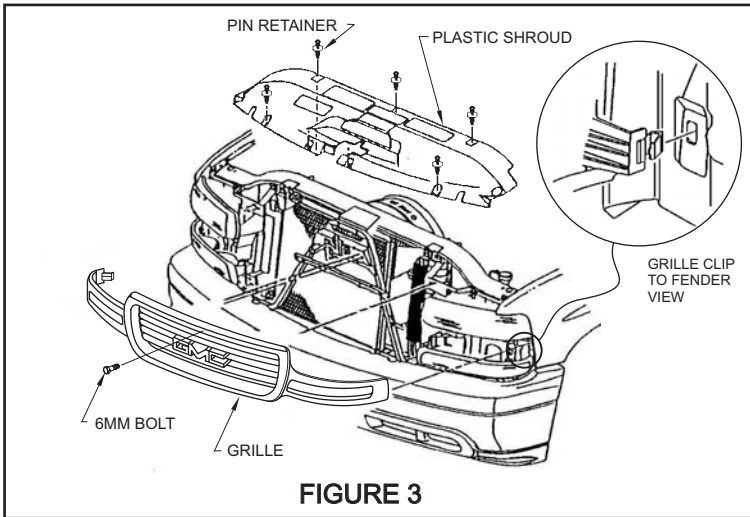

FIGURE 3
- STEP 4. Remove grille from truck by removing 6mm bolt from top of grille. Then pull on outer edge of grille by applying firm pressure away from the fender, repeat on the opposite side and center section. Carefully remove grille from vehicle. **SEE FIGURE 3.**